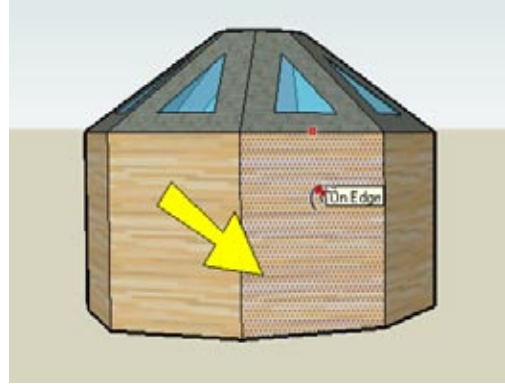

Figure 1-47
- Now you'll make alternating windows and doors on the vertical faces. Activate Offset again, and place your cursor inside one of the faces, as shown in Figure 1-47 (don't click yet).